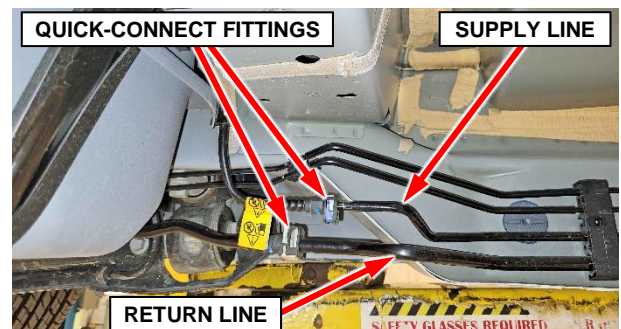

Figure 54 – Fuel Line Quick-Connect Fittings Near Fuel Tank
- 80. Place a rag around the quick-connect fitting to capture any residual fuel then disconnect the fuel supply line and fuel return line near the fuel tank (Figure 54).
92. Connect the fuel supply and return line quick-connect fittings near the fuel tank and in the engine compartment (Figures 54 and 60).